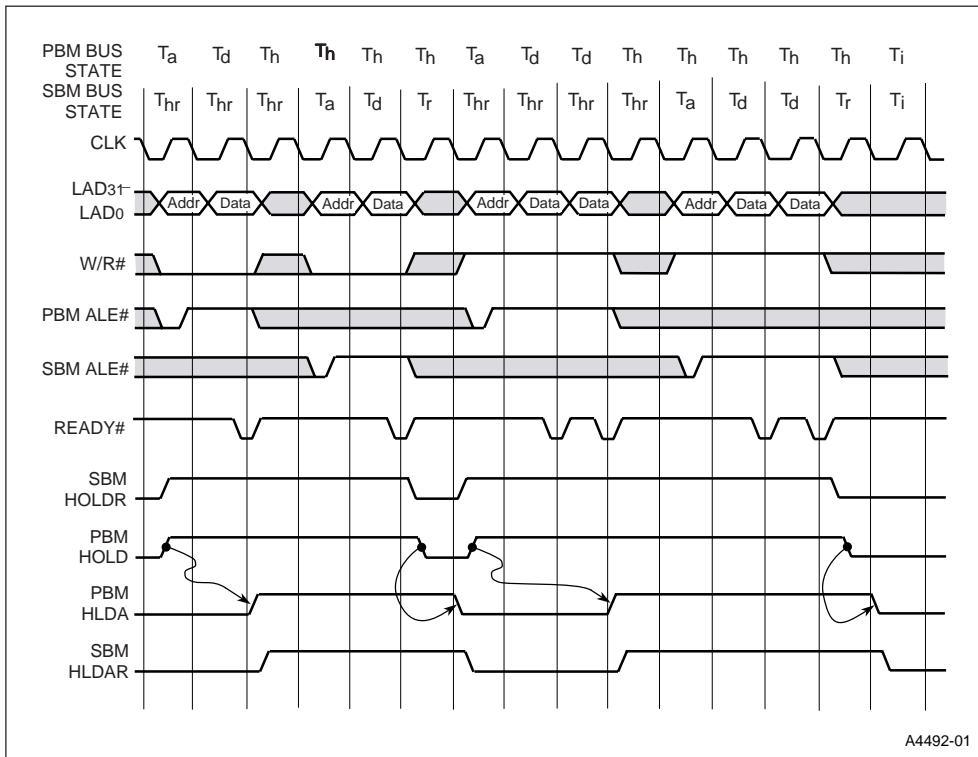

Figure 28. Bus Exchange Transaction (PBM = Primary Bus Master, SBM = Secondary Bus Master)
- Figure 28, Bus Exchange Transaction \(PBM = Primary Bus Master, SBM = Secondary Bus Master\) \(pg. 35\)